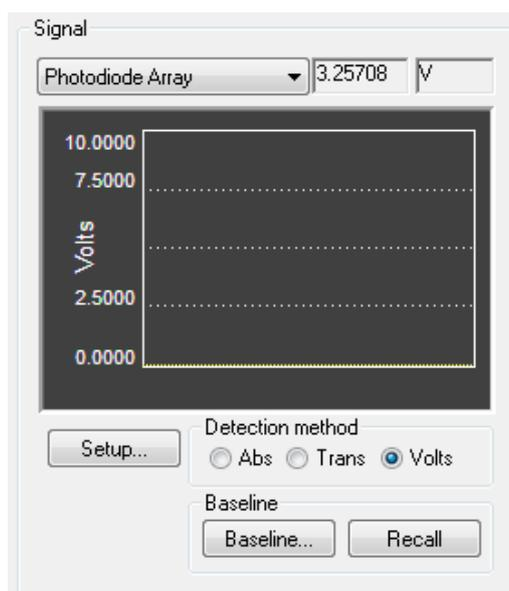

Figure 2.32: the Signal panel for PDA operation
4) Ensure that the optical cell is filled with water and click **Baseline** in the **Signal** panel (Figure 2.32) to collect the 100% transmission signal.